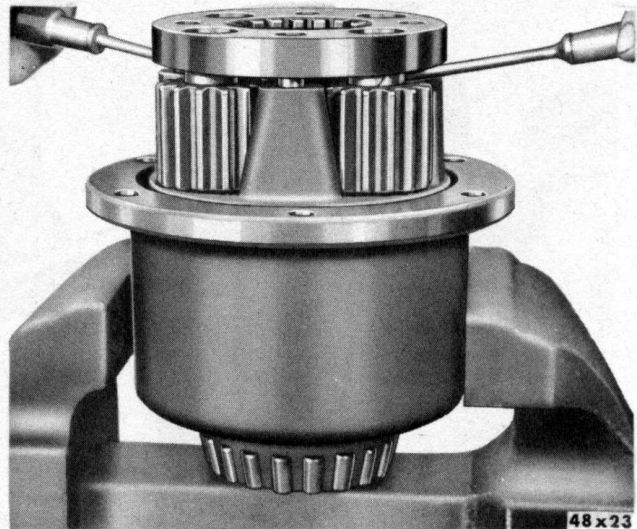
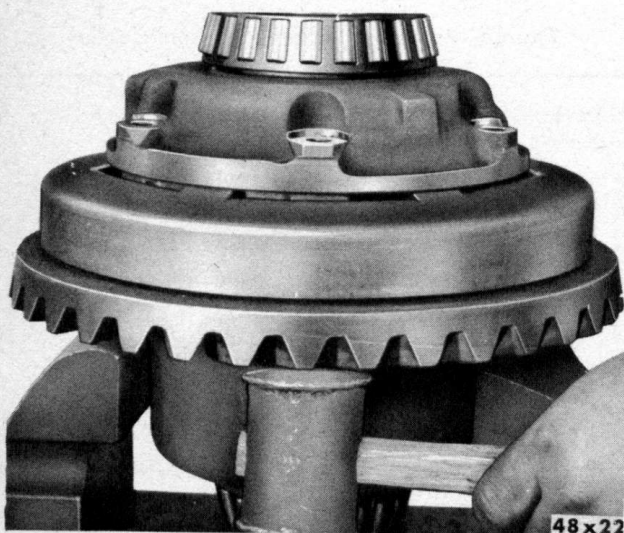

Fig. 68—Removing High Speed Clutch Plate
Fig. 67—Removing Ring Gear
- (16) Tap alternately on opposite sides of the ring gear with the head of a rawhide mallet until the gear is free from flange on support case (Fig. 67). When reassembling, use two bolts to assure proper alignment of bolt holes.
- (17) Lift off left half of support case, thrust washer and ring gear.
- (18) Pry off high speed clutch plate and take out idler pinions and pins. See Figure 68.